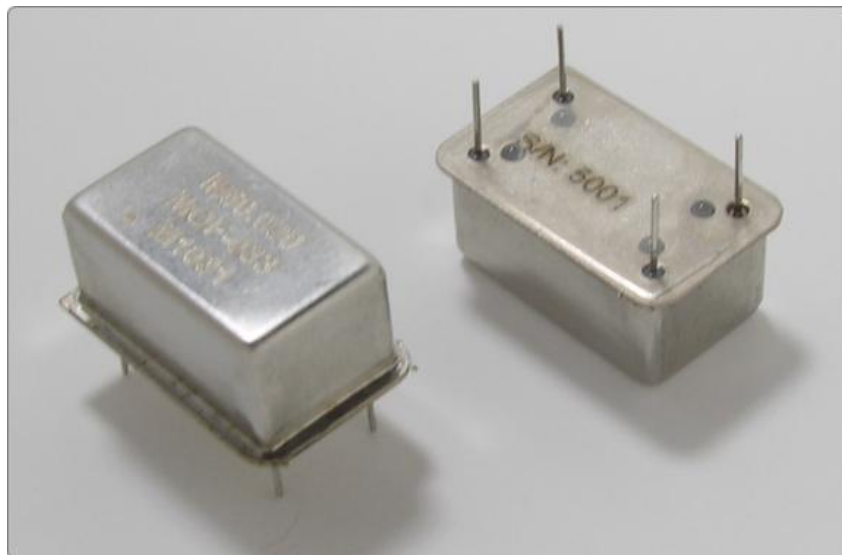

Figure 1: OCXO Oven Controlled Oscillator
The shrouded IDC connectors labeled Flag 12..23and Flag 24.. 35 can also be accessed using an SP32 board (Figure 1) which allows the use of MMCX cables. This enables the individual bits of the PulseBlaster to be more easily accessed. Pin 1 on the MMCX adapter board can identified with a square pin.
1. OCXO – Oven Controlled Oscillator. Figure 1 – This oscillator is available in a frequency of 50 MHz. For ordering information contact SpinCore at <http://www.spincore.com/contact.shtml>.